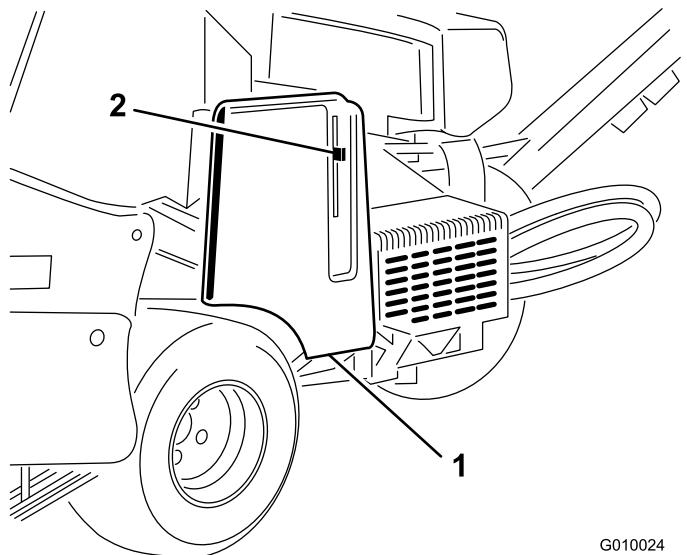
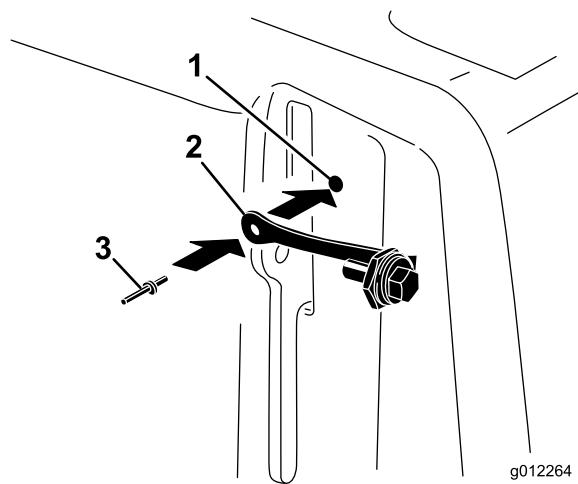

Figure 8
Figure 9
2. Using the hole in the belt cover, install the lanyard assembly with a pop rivet (Figure 9).
1. Locate the hole in the belt cover next to the latch lever (Figure 8 and Figure 9).